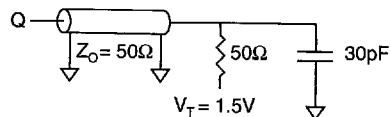

Fig. 1 OUTPUT LOAD EQUIVALENT
| Output load | See Figures 1 and 2 |
- Test conditions as specified with the output loading as shown in Fig. 1 unless otherwise noted.